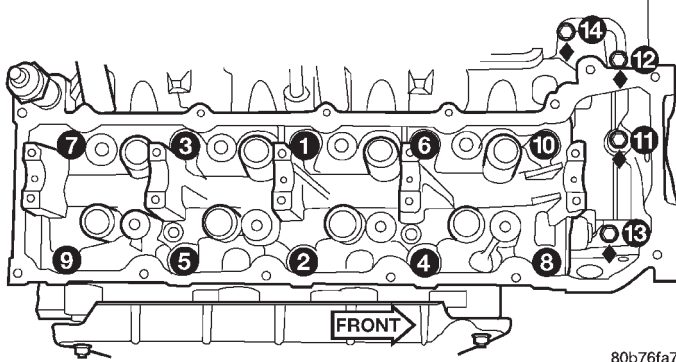

Fig. 51 Cylinder Head Tightening Sequence
(6) Tighten the bolts in sequence (Fig. 51) using the following steps and torque values: